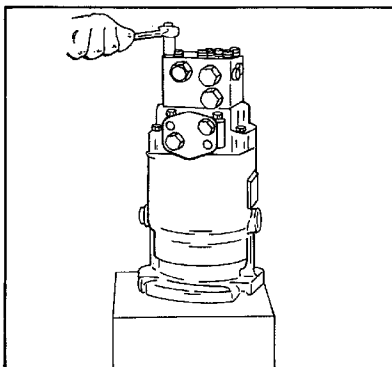

Figure 8.
3. Remove the four corner bolts holding manifold to motor end cap (refer to Fig. 8). Figure 8.